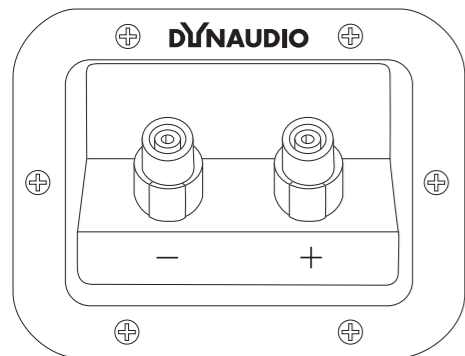

Fig. 1 Binding posts at rear of cabinet (example)
1. Connect a two-pole (+/-) loudspeaker cable to the binding posts, located at rear of the cabinet (see Fig. 1). The high quality, gold plated binding posts can accommodate different connection systems: